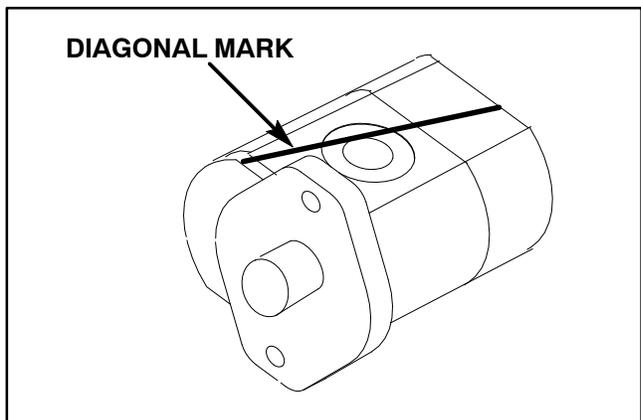

Figure 58
2. Use a marker or scribe to make a **diagonal** mark across the front flange, body and rear cover for reassembly purposes (Fig. 58).